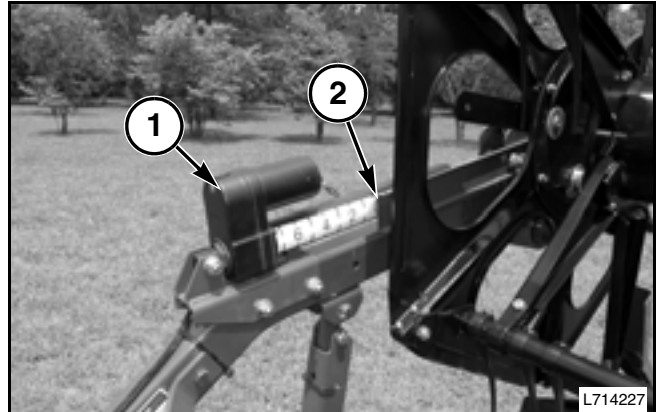

FIG. 62
FIGS. 62–64: The reel can be moved forward or rearward on the reel arm, from the operator's platform by pressing the switch to activate the reel adjusting electric motors (1) located on each reel arm.